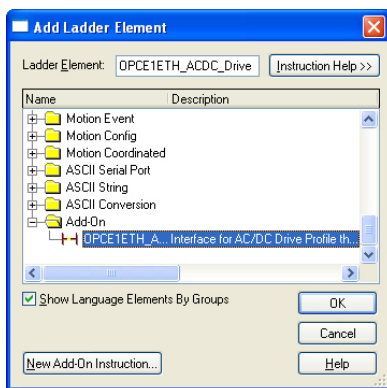

Figure 98: Add AC/DC Drive Profile Add-On Instruction
- 8) Select the AC/DC drive profile add-on instruction in the Add-On folder. Refer to Figure 98.